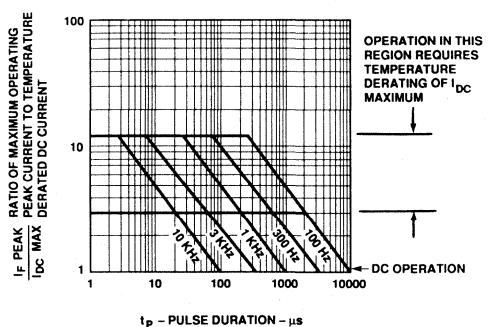

Figure 11. Maximum Tolerable Peak Current vs. Pulse Duration - Green.
- See Figure 11 to establish pulsed conditions.